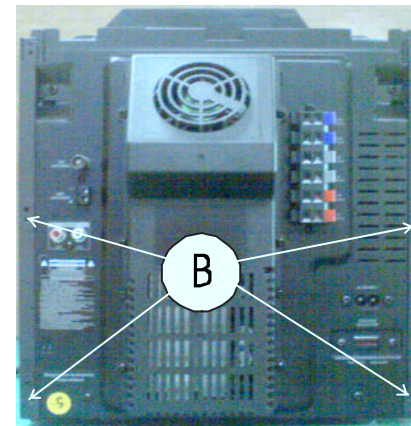

Figure3
- Loosen 4 screws "B" each on the back panel as show in figure 3